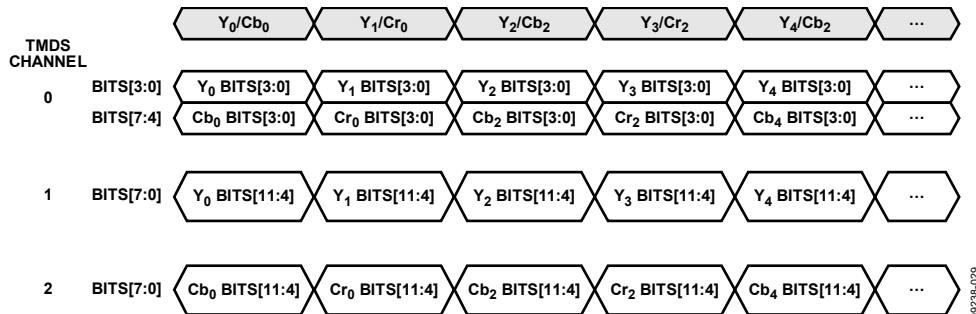
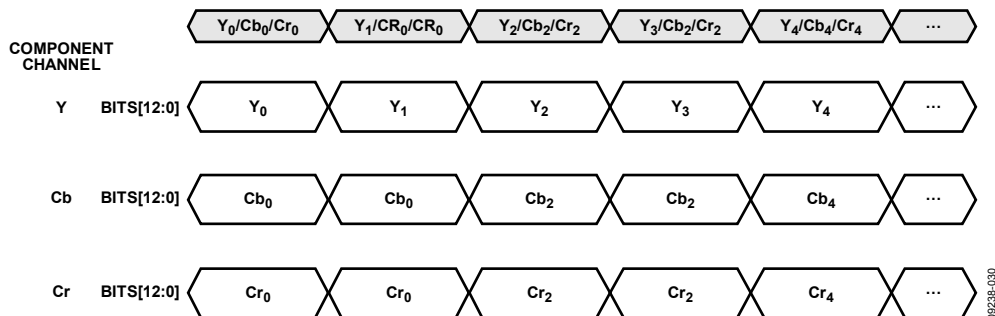

Figure 23. YCbCr 4:2:2 Video Data Encapsulated in HDMI Stream
Figure 24. Video Stream Output by HDMI Core for YCbCr 4:2:2 Input and `UP_CONVERSION = 0`
- If the HDMI section receives a stream with video encoded in a 4:2:2 format (refer to Figure 23), the HDMI section upconverts the video data into a 4:4:4 format, according to the UP_CONVERSION_MODE bit, and passes the upconverted video data to the DPP section (refer to Figure 24).